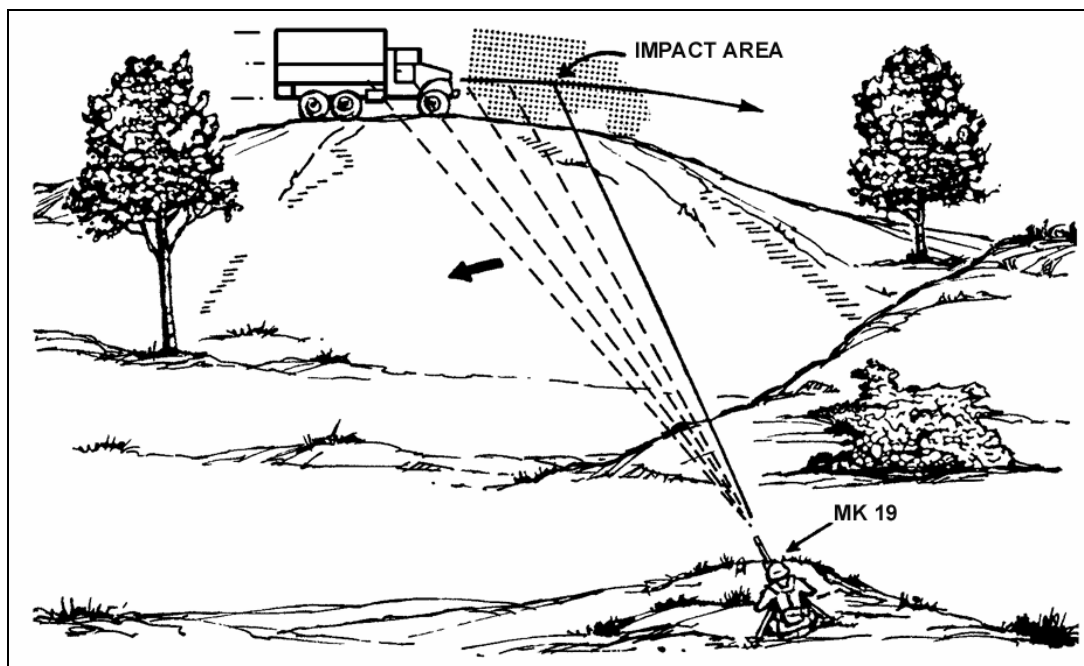

Figure 5-18. Target-trapping method.
f. **Engagement of Moving Targets.** Due to the slow flight of the MK 19 round, it is not practical to engage moving targets using the track-and-lead methods of engaging moving targets. In order to effectively engage moving targets with the MK 19, use the trapping method of engaging targets. The gunner chooses an aiming point forward of the target and on the target path, and presses the trigger before the target comes into the sights. After starting to fire, the gunner moves the MK 19 slowly toward the target. The target moves into the impact area, and is “trapped.” The gunner must begin firing before the target is in the sights or in the impact area (Figure 5-18).